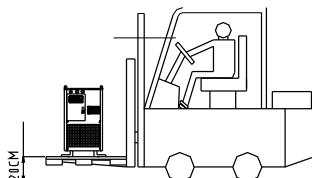

Figure 3
- (2) Disconnect power line and vent the coolant in the cooler before move it.
- (3) If using forklift to move the cooler, keep the cooler lower than 20 cm height from the ground all the time. (See Figure 3)